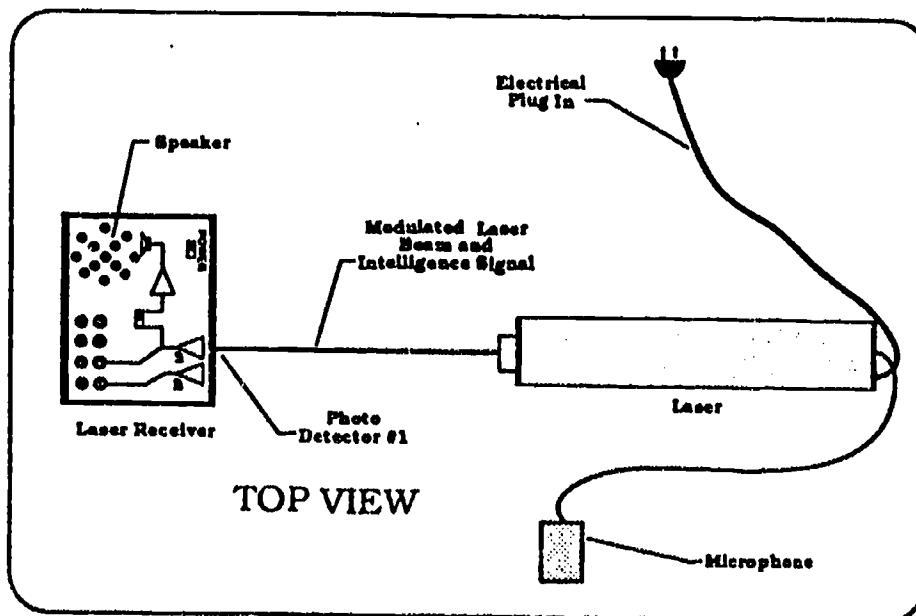

Figure 1
1. Set up a laser, microphone, and laser receiver so that it looks like figure 1 below: